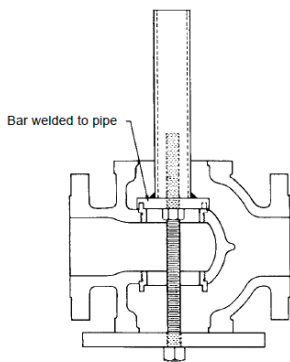

figure 3
Threaded seat rings (13, 14) are installed tightly at the point of manufacture and after years of service they are often difficult to remove. To facilitate removal, seat ring wrenches can be fabricated to engage the seat ring lugs and adapted to a shock wrench (see figure 3). If the seat ring is exceptionally resistant to removal the application of heat or penetrating oil should be helpful.
- C. Install and tighten seat rings using fabricated wrench used for removal. (See figure 3).